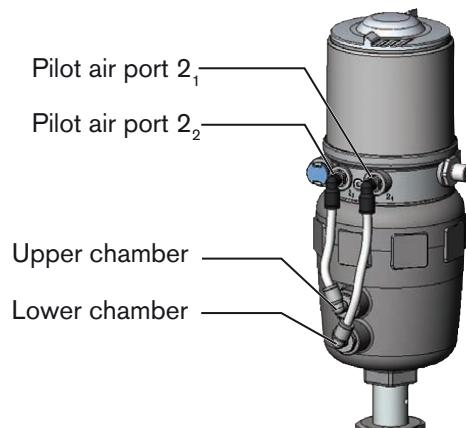

Figure 14: Installation of the pneumatic connection, 20xx series
- !** Ensure that the pneumatic connections of the control head and those of the valve actuator are situated preferably vertically one above the other (see "Figure 14:").